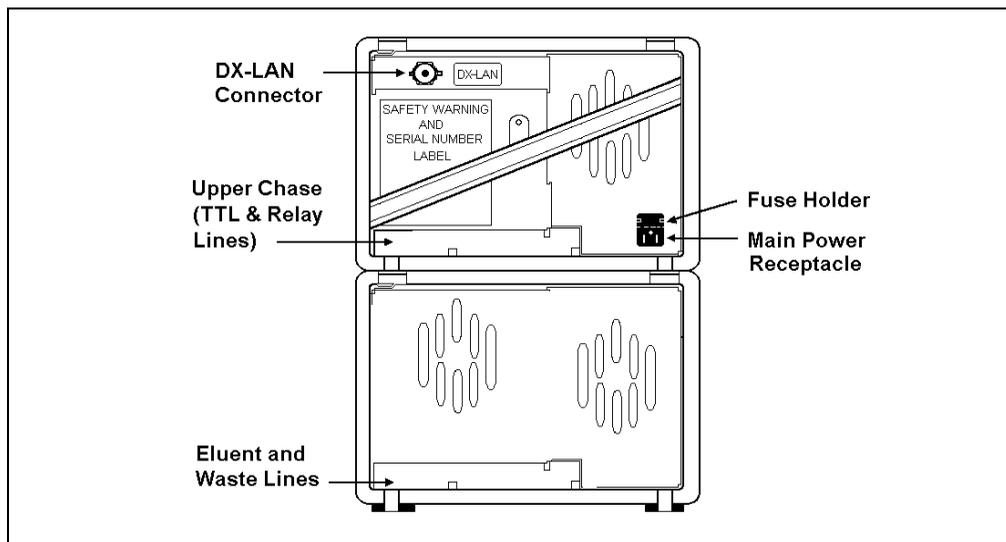

Figure B-1. IC20 Rear Panel
Connect a modular power cord (IEC 320 C13) from the main power receptacle on the IC20 rear panel (see Figure B-1) to a grounded, single-phase, power source.
1. If you are replacing a DX-LAN interface card, remove the hex nut securing the DX-LAN BNC connector to the IC20 rear panel (see Figure B-1).
- a. Note the two small locking pins on either side of the DX-LAN BNC connector on the rear panel (see Figure B-1).